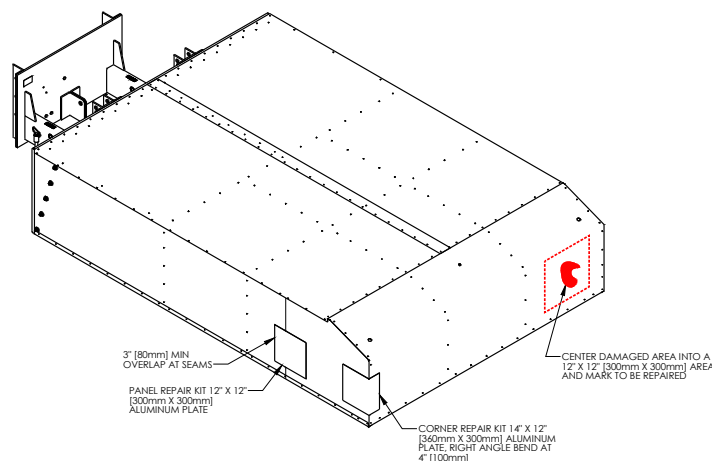

Figure 3: Repair Kit Applications.
- c. Center the damaged area across a 12"x12" [300mm x 300mm] square section and mark/ outline this area to be prepped for patching. If repairing a corner or edge, the patched area shall be 10"x12" [230mm x 300mm] at one side and 4"x12" [100mm x 300mm] on the other. See Figure 3 for examples.